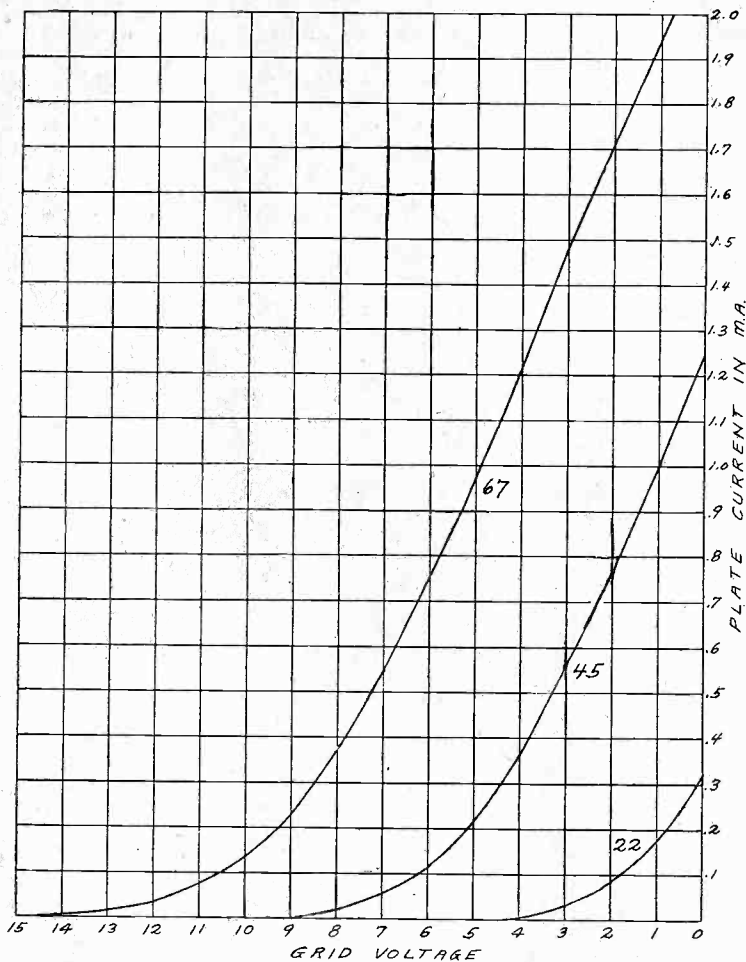
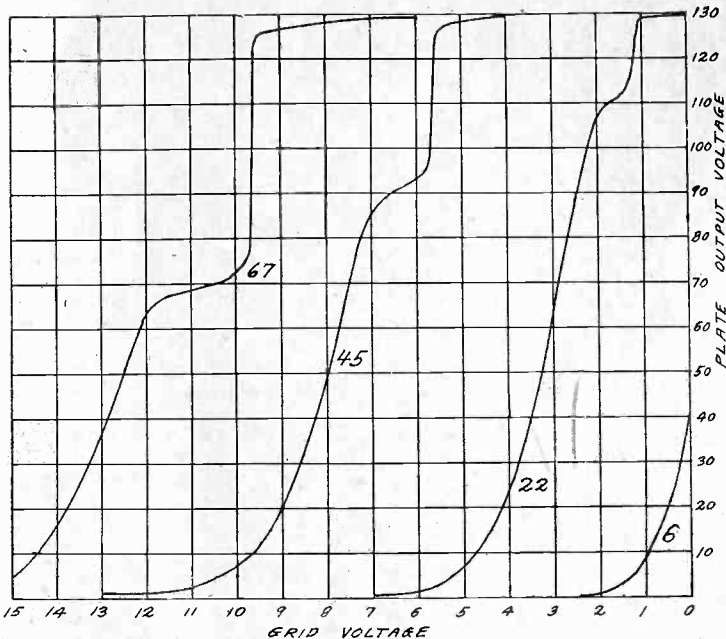

FIG. 1
FIG. 2
The three curves shown in Fig. 1 were taken on a screen grid tube operating with 3.3 volts on the filament and with negligible resistances in the grid and plate circuits. The resistance in the grid circuit was only that of the 400-ohm potentiometer used to adjust the grid bias and this for most of the readings was considerably less than 400-ohms. The resistance in the plate circuit was only that of the millimeter and the dry cell batteries, a total of less than 50 ohms. Hence the curves are the characteristics of the tube itself.
In Fig. 2 is shown a set of four curves taken on the same screen grid tube when a resistance of 1 megohm was connected in plate circuit. These curves give the relation between the grid bias and the voltage developed across the plate resistor. The filament and applied plate voltages are the same as in the case of the grid voltage, plate current curves in Fig. 1. The four curves are for four different screen grid voltages as indicated.
The upper portions of curves (22), (45) and (67) were published last week (August 11th issue) under nearly the same conditions. While the same batteries were used in taking those curves as the curves in Fig. 2, the voltages were slightly different, due to temperature differences. The plate voltage is 130 volts for all the curves in Fig. 2 and the screen grid voltages are those indicated.
The curves in Fig. 2 hold only for the screen grid tube when the applied plate voltage is 130 volts and the load resistance is one megohm. If the applied plate voltage is higher the curves will move to the left a little and they will go considerably higher before they flatten out. In any case they flatten out just before the voltage drop in the output resistor is equal to the applied voltage.
It must be remembered that all the curves in Fig. 2 were taken with 1 megohm in the plate circuit. The curves will not have the same shape when lower values are used. That is they would not coincide if two sets were plotted to the same scale on the same graph. This is because the internal plate resistance of the tube would bear a different ratio to the load resistance. The slopes would not be so great, indicating lower amplification, and the effective voltage on the plate would be higher.
AT TOP IS AN ELIMINATOR OF LOW OUTPUT VOLTAGE WHICH MAY BE USED FOR POWERING THE RADIO FREQUENCY, DETECTOR AND FIRST AUDIO TUBES (FIG. 2).